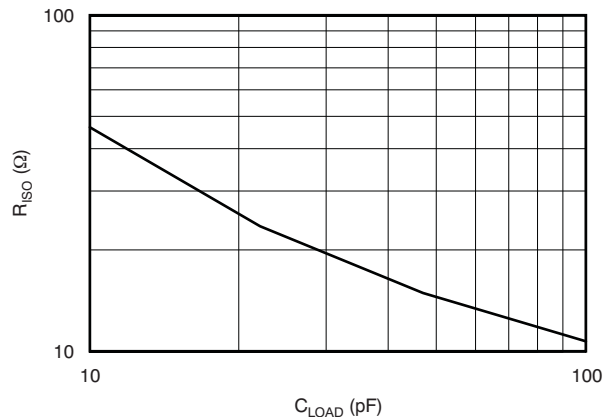

Figure 17.
The Typical Characteristics show the recommended  $R_{ISO}$  versus Capacitive Load performance (see Figure 17) and the resulting frequency response with a 1-k $\Omega$  load. Note that larger  $R_{ISO}$  values are required for lower capacitive loading. In this case, a design target of a maximally-flat frequency response was used. Lower values of  $R_{ISO}$  may be used if some peaking can be tolerated. Long PCB traces, unmatched cables, and connections to multiple devices can easily degrade the performance of the OPA653. Always consider this effect carefully, and add the recommended series resistor as close as possible to the OPA653 output pin (see the Board Layout section). With heavier loads (for example, the 100- $\Omega$  load presented in the test circuits used for testing the Typical Characteristics), the OPA653 is very robust;  $R_{ISO}$  can be as low as 10  $\Omega$  with capacitive loads less than 5 pF and continue to show a flat frequency response.
**d) Connections to other wideband devices** on the board may be made with short direct traces or through onboard transmission lines. For short connections, consider the trace and the input to the next device as a lumped capacitive load. Relatively wide traces (50 mils to 100 mils, or 1,27 cm to 2,54 cm) should be used. Estimate the total capacitive load and set  $R_{ISO}$  from the plot of *Recommended  $R_{ISO}$  vs Capacitive Load* (Figure 17). Low parasitic capacitive loads (less than 5 pF) may not need an  $R_{ISO}$  because the OPA653 is nominally compensated to operate with a 2-pF parasitic load.
Higher parasitic capacitive loads without an  $R_{ISO}$  are allowed as the signal gain increases (increasing the unloaded phase margin). If a long trace is required, and the 6-dB signal loss intrinsic to a doubly-terminated transmission line is acceptable, implement a matched impedance transmission line using microstrip or stripline techniques (consult an ECL design handbook for microstrip and stripline layout techniques). A 50- $\Omega$  environment is normally not necessary onboard, and in fact a higher impedance environment improves distortion as shown in the distortion versus load plots. With a characteristic board trace impedance defined based on board material and trace dimensions, a matching series resistor into the trace from the output of the OPA653 is used as well as a terminating shunt resistor at the input of the destination device. Remember also that the terminating impedance is the parallel combination of the shunt resistor and the input impedance of the destination device: this total effective impedance should be set to match the trace impedance. If the 6-dB attenuation of a doubly-terminated transmission line is unacceptable, a long trace can be series-terminated at the source end only. Treat the trace as a capacitive load in this case, and set the series resistor value as shown in the plot of  *$R_{ISO}$  vs Capacitive Load* (Figure 17). This configuration does not preserve signal integrity as